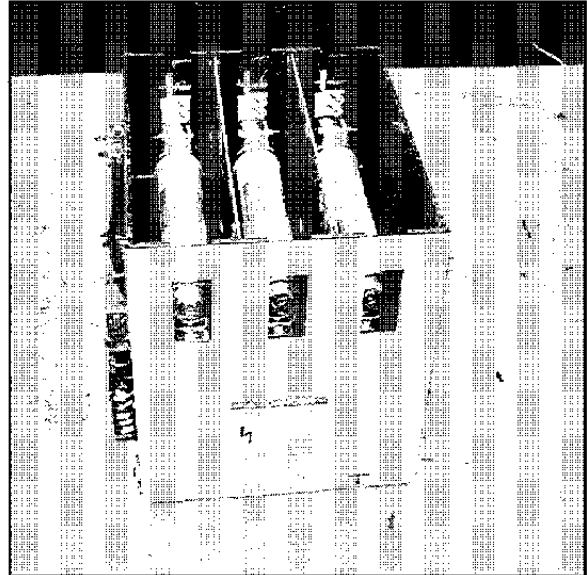

Fig. 11 Withdrawable Contactor Carriage
B. Withdrawable Contactor Carriage (Fig. 11)